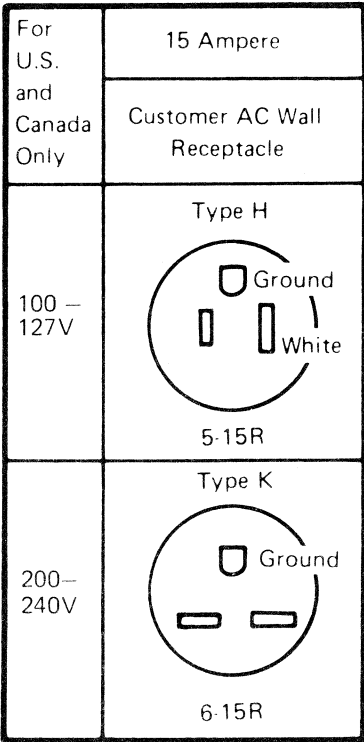

Figure 7. Wall Outlet Configuration
- 25. Verify that a short circuit of 0.1 ohm or less exists between the outlet ground pin, outlet case, and building ground. See Figure 7 for wall outlet configurations.